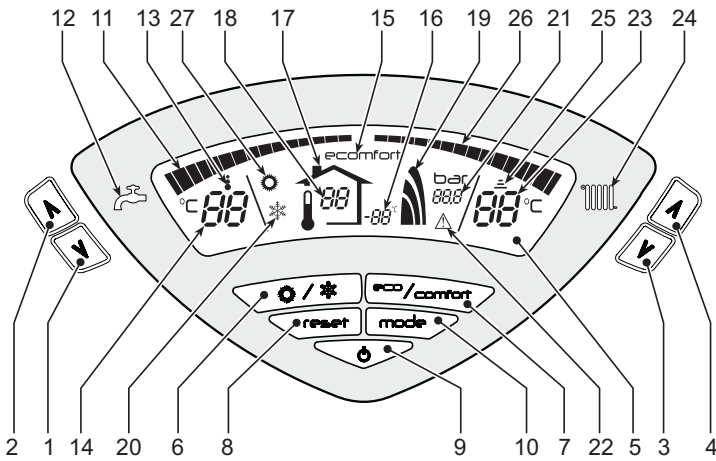
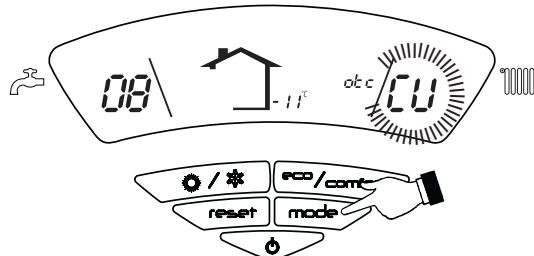

fig. 1 - Control panel
fig. 11 - Compensation curve
A heating demand (generated by the Room Thermostat or Remote Timer Control) is indicated by flashing of the symbol **Heating Mode** (detail 25 - fig. 1).
The heating graduation marks (detail 26 - fig. 1) light up as the heating sensor temperature reaches the set value.
A DHW demand (generated by drawing domestic hot water) is indicated by flashing of the symbol **DHW Mode** (detail 13 - fig. 1). Make sure the Comfort function (detail 15 - fig. 1) is activated
The DHW graduation marks (detail 11 - fig. 1) light up as the DHW sensor temperature reaches the set value.
When hot water tank heating is activated (default setting), the COMFORT symbol (detail 15 - fig. 1) is activated on the display, and when off, the ECO symbol (detail 15 - fig. 1) is activated on the display
Press the **on/off** button (detail 9 - fig. 1) for 1 second.
When the boiler is turned off, the electronic board is still powered. Heating operation is disabled. The antifreeze system remains activated. To relight the boiler, press the **on/off** button (detail 9 fig. 1) again for 1 second.
- Press the ON/OFF button (9 - fig. 1)
Press the **summer/winter** button (detail 6 - fig. 1) for 1 second.
The display activates the Summer symbol (detail 27 - fig. 1): the boiler will only deliver domestic hot water. The antifreeze system remains activated.
To deactivate the Summer mode, press the Summer/Winter **button** (detail 6 - fig. 1) again for 1 second.
Use the **heating** buttons (details 3 and 4 - fig. 1) to adjust the temperature from a min. of 30°C to a max. of 80°C.
Use the **DHW** buttons (details 1 and 2 - fig. 1) to adjust the temperature from a min. of 10°C to a max. of 65°C.
When the optional external probe is installed, the control panel display (detail 5 - fig. 1) shows the actual outside temperature read by the probe. The boiler control system works with "Sliding Temperature". In this mode, the heating system temperature is controlled according to the outside weather conditions in order to ensure high comfort and energy saving throughout the year. In particular, as the outside temperature increases the system delivery temperature decreases according to a specific "compensation curve".
With Sliding Temperature adjustment, the temperature set with the heating buttons (details 3 and 4 - fig. 1) becomes the maximum system delivery temperature. It is advisable to set a maximum value to allow system adjustment throughout its useful operating range.
Press the **mode** button (detail 10 - fig. 1) once to display the actual compensation curve (fig. 11) which can be modified with the **DHW** buttons (details 1 and 2 - fig. 1).